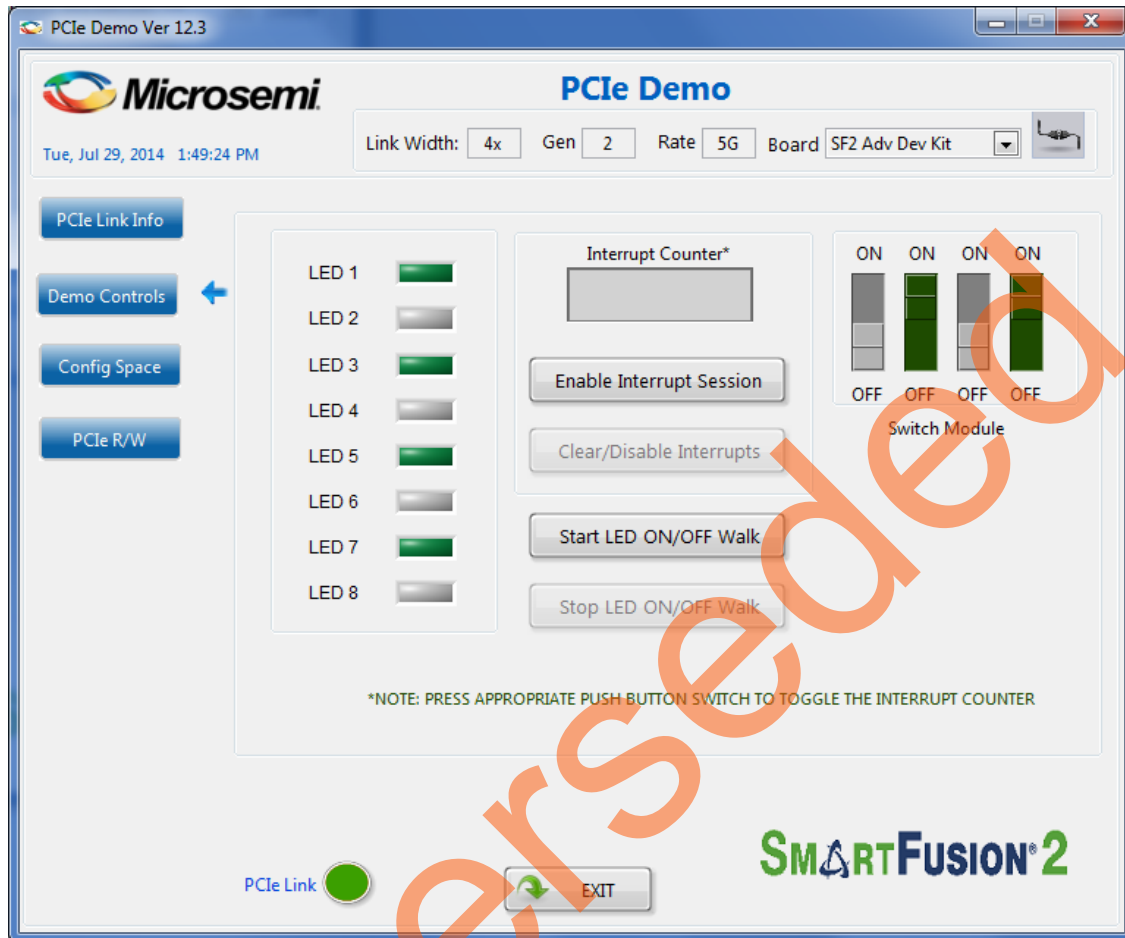

Figure 21 • Demo Controls
5. Click **Demo Controls**. Figure 21 shows the LED options and DIP switch status.